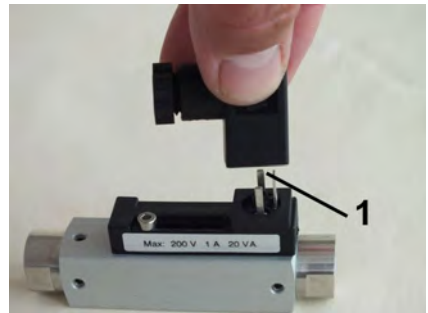

Fig. 54: Remove female socket
2. ▶ Remove the female socket and gasket (Fig. 54/1) by pulling upwards.